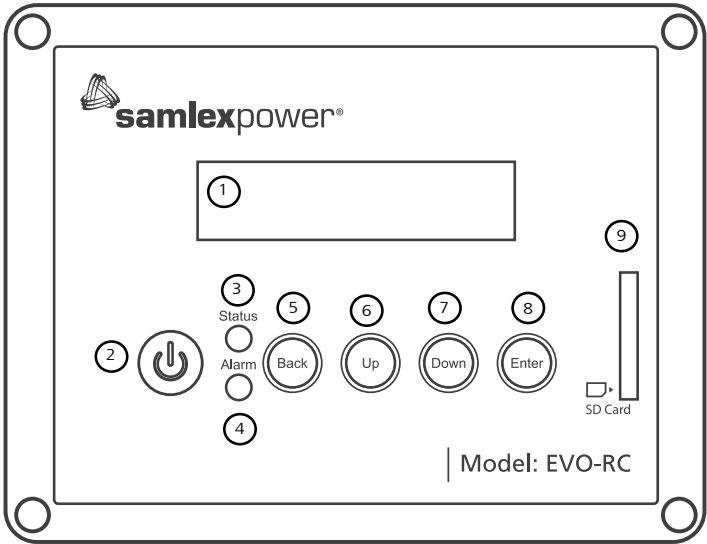

Fig 2.4(a) Optional Remote Control EVO-RC
2.4 REMOTE CONTROL EVO-RC (FIG 2.4) [OPTIONAL]